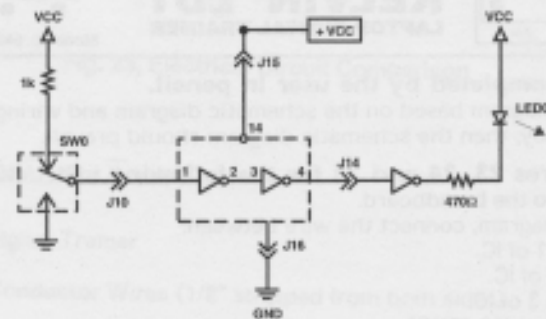

Fig. 27, Circuit Diagram
**Procedure - Refer to Figures 27 and 28 for the following instructions.**